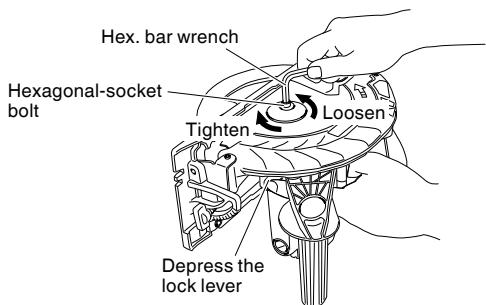

Fig. 7
- (1) Set the cutting volume at maximum, and place the Circular Saw as shown in **Fig. 7**.
- (2) Depress the lock lever, lock the spindle, and remove the hexagonal-socket bolt with the hex. bar wrench.
- (3) While holding the lower guard lever to keep the lower guard fully retracted into the saw cover, remove the saw blade.